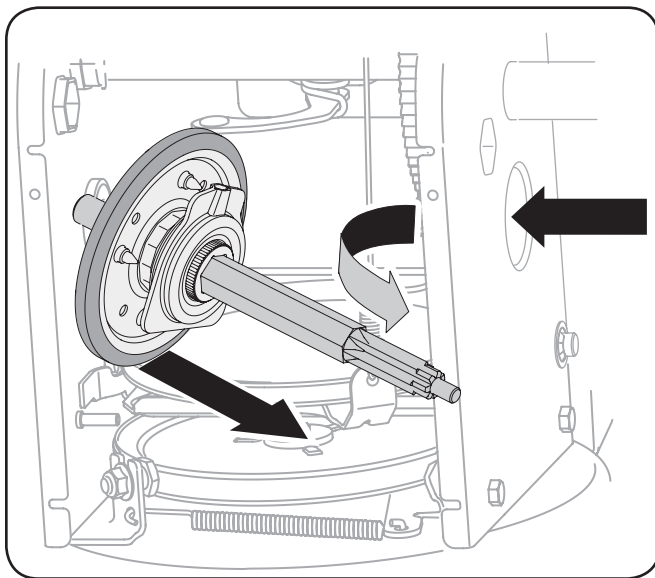

Figure 7-10
- Carefully position the hex shaft downward and to the left before carefully sliding the friction wheel assembly off the shaft. See Figure 7-10.